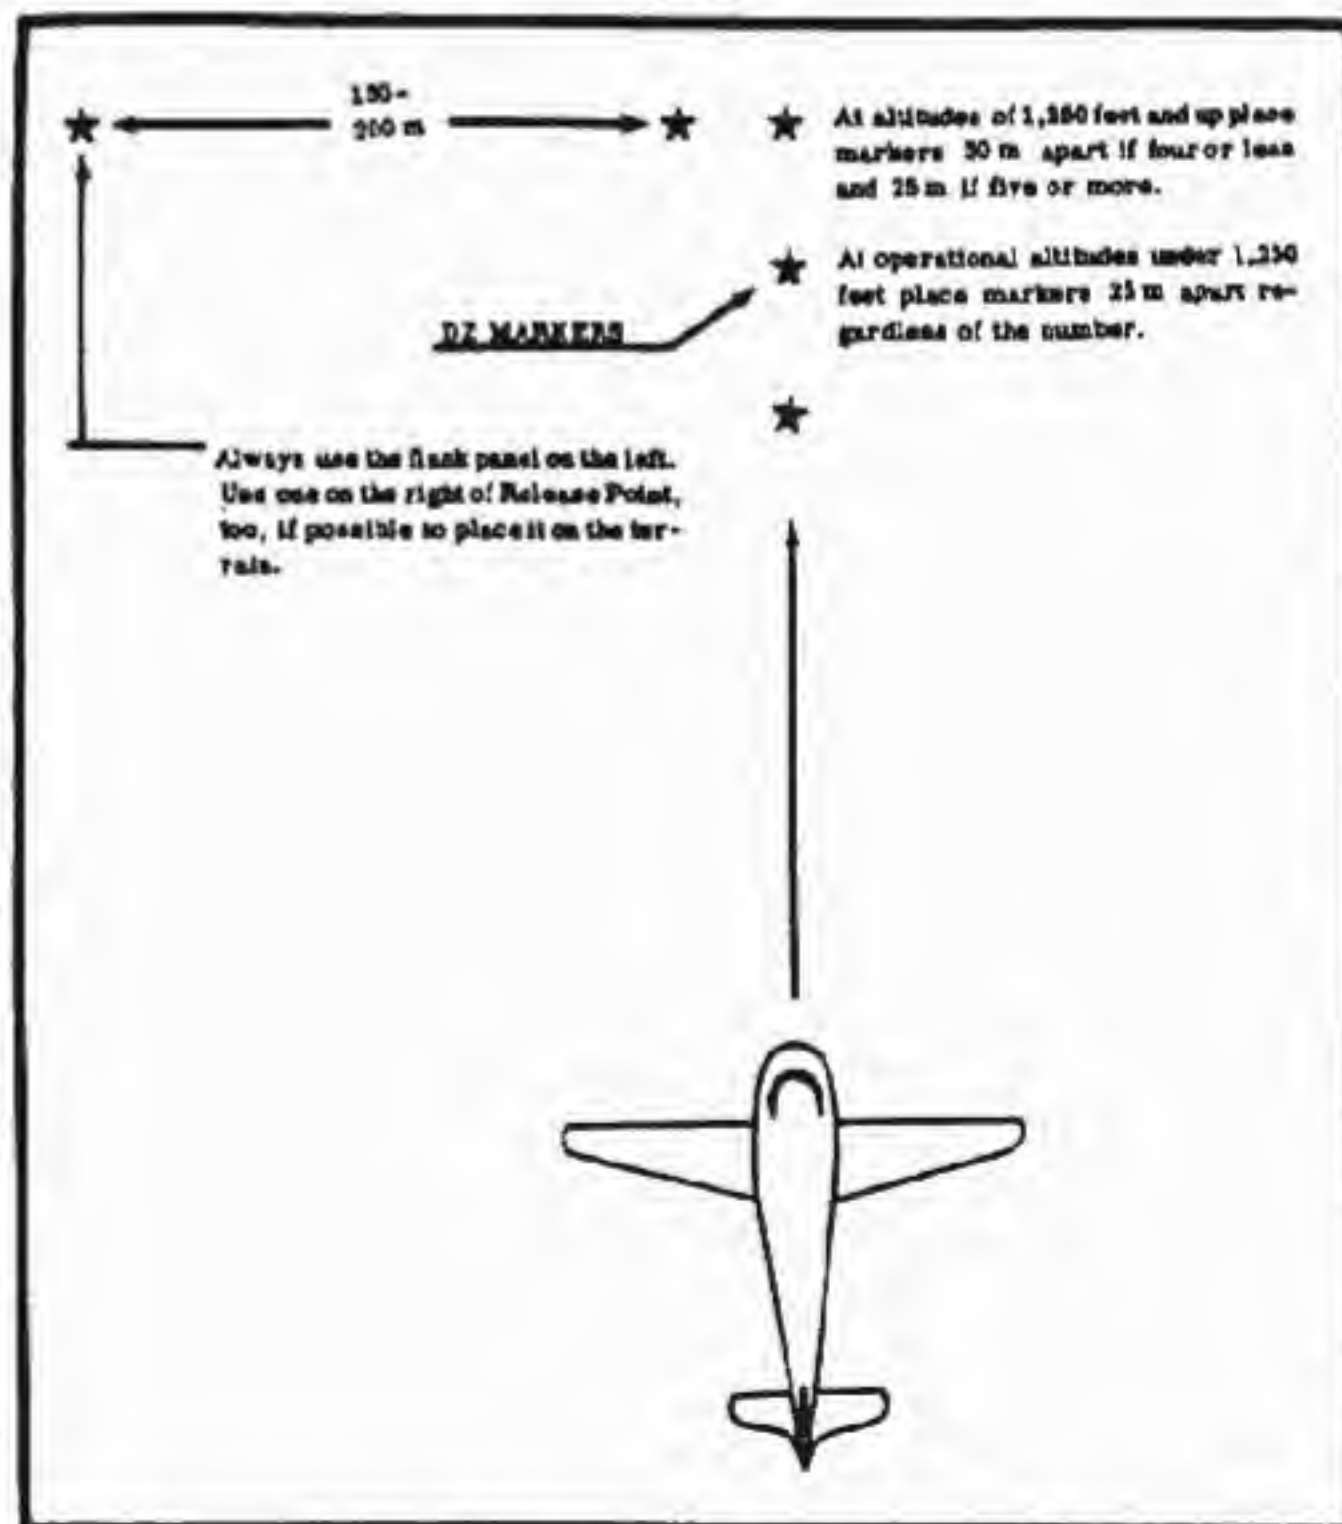

Figure 7. Method of release point marking
1. Training jumps conducted at an absolute altitude of 1,250 feet (383 meters) require the use of a flank panel or light placed 200 meters to the left of the release point markings. The configuration of present cargo and troop carrying aircraft prevents the pilot from seeing the markings after approaching within approximately one (1) mile of the DZ while flying at 1,250 feet (383 meters) absolute altitude. From this point on, the pilot must depend on flying the proper track in order to pass over the release point. The flank marker serves to indicate when the aircraft is over the release point and the exact moment the drop should be executed. Operational drops executed at 600 feet (183 meters) absolute altitude do not require the flank panel because the pilot does not lose sight of the markings as he approaches the DZ. (See Figure 7)